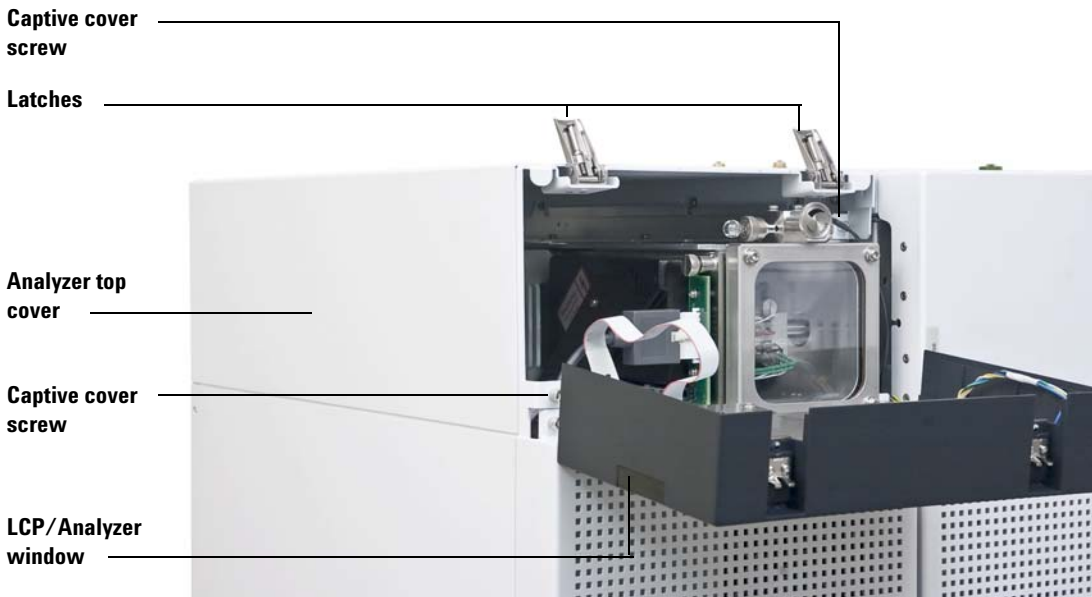

Figure 24 Removing analyzer top cover
- 1 Open the LCP/Analyzer window. See Figure 24.